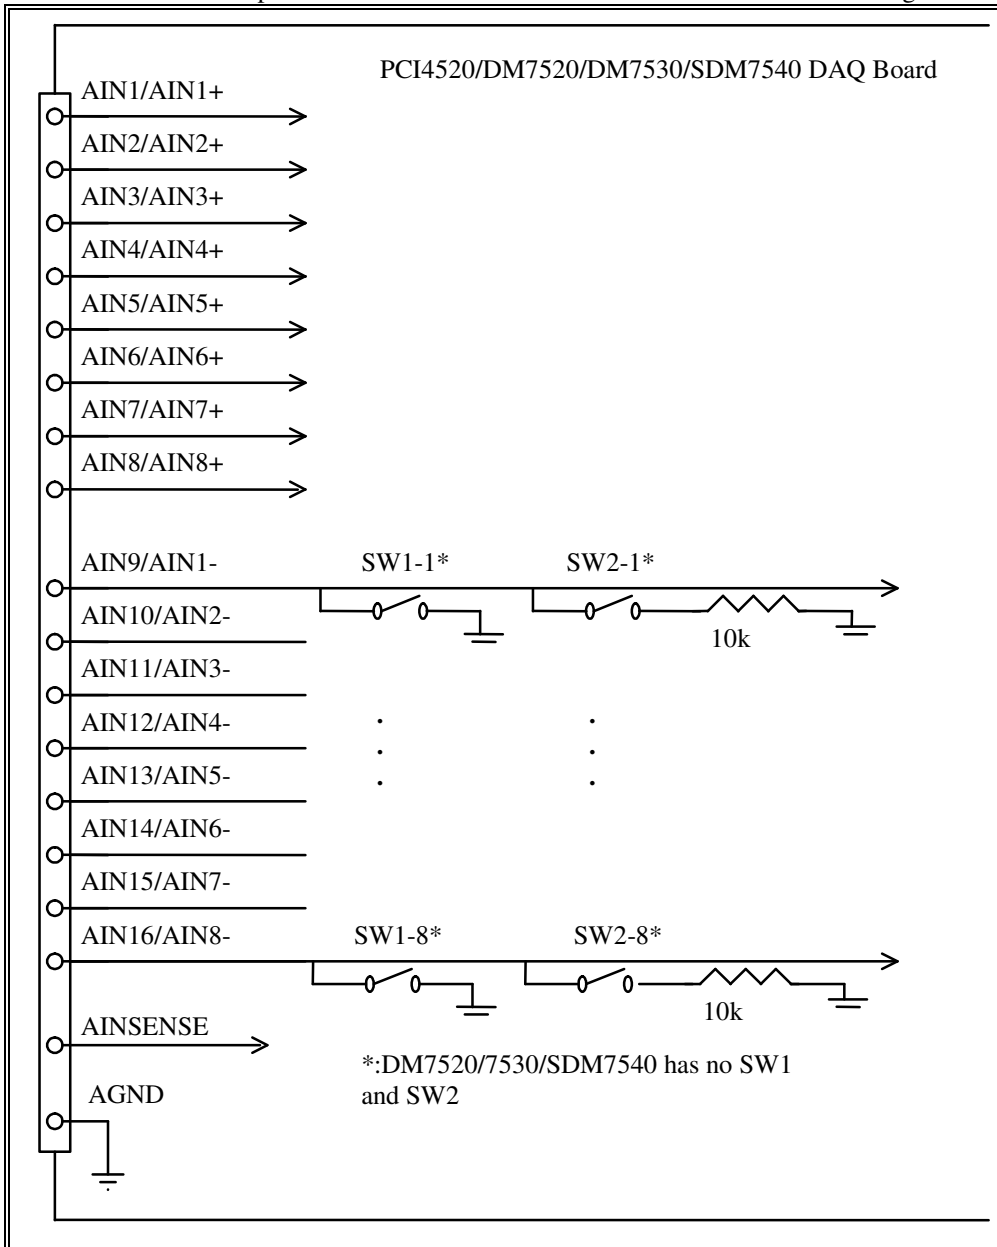
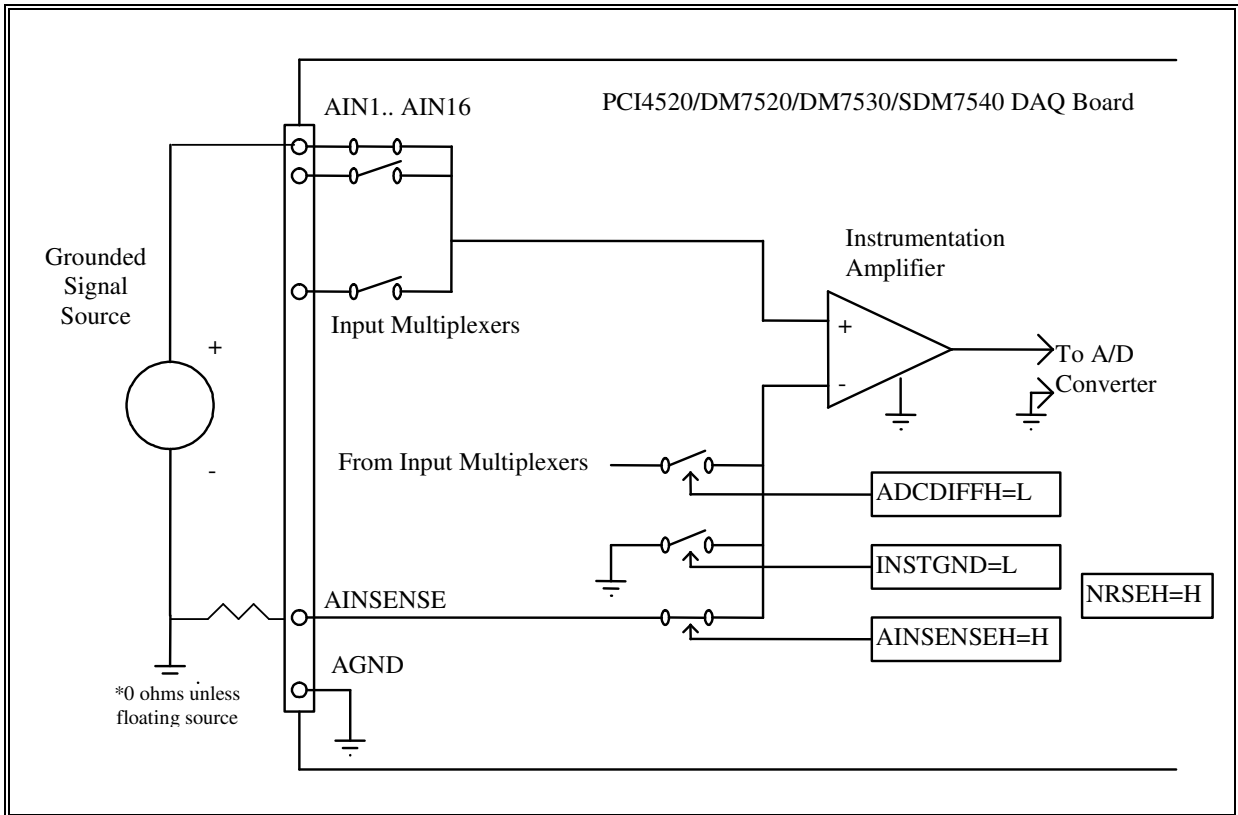

Figure 2.3.1.
Figure. 2.3.3 Non Referenced Single-Ended input mode
All of three modes are software selectable. Inside the differential mode the no grounding, the grounding directly or via a 10kOhm resistor of low side of source can be done by setting the DIP switches on SW1 and SW2. The position of the SW1 and SW2 Switches can be seen in the Figure 2.3.1.
*This mode is suggested only for floating signal sources to avoid the ground loops. To configure the GRSE analog input, connect the high side of the input signal to the selected analog input channel, AIN1 through AIN16, and connect the low side to any of the ANALOG GND pins available at the connector. If you use the channels 9 through 16 switch the appropriate SW1-x and SW2-x off. (See Figure 2.3.1.)*
This mode can be used - first of all - for grounded signal sources (in the Figure 2.3.3.), but can be used for floating sources too. In the case of floating sources an external resistor is needed to ground the AINSENSE signal. To configure the NRSE analog input, connect the high side of the input signal to the selected analog input channel, AIN1 through AIN16, and connect the low side to the AINSENSE pin available at the connector. If you use the channels 9 through 16 switch the appropriate SW1-x and SW2-x off. (See Figure 2.3.1.)
In the Figure 2.3.3 You can see the switch states of this mode. The NRSEH bit is in high state which means that this is the NRSE mode. ADCDIFFH bit is in low state because this is not a differential mode. The AINSENSEH bit is in high state controlling the connection of low side of Instrumentation Amplifier to AINSENSE signal. The INSTGNDH bit is in low state because the reference signal of Instrumentation Amplifier is the AINSENSE signal.